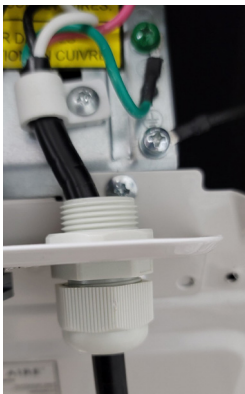

Figure 8.1
1. Connect the supplied gray waterproof cord connectors (see Figure 8.1 on page 27) to the conduit plate by removing the plastic nut on the waterproof cord connector and fasten it to the bottom side of the conduit plate.